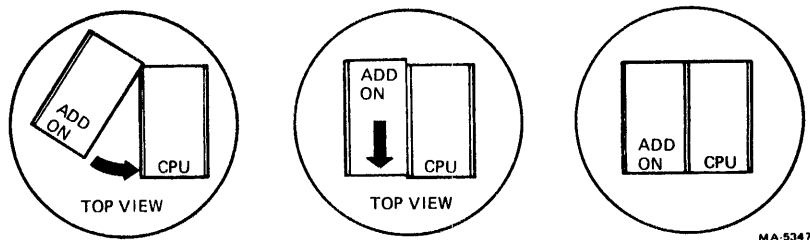

Figure 2-10 H9646 Add-On Positioning
3. Roll the add-on cabinet into position (Figure 2-10) so the add-on cabinet can be pushed onto the key buttons of the stationary cabinet.
4. Pull the add-on cabinet forward to fit into the key button slots (Figure 2-10).